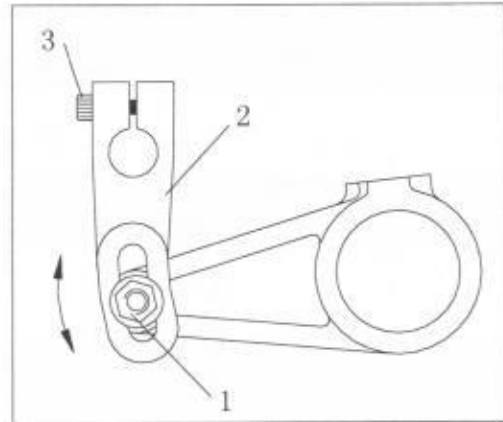

Fig 9
-- Loosen the nut 1, move it upward in the buttonhole to increase the presser foot jump. And vice-versa.(Fig 9)